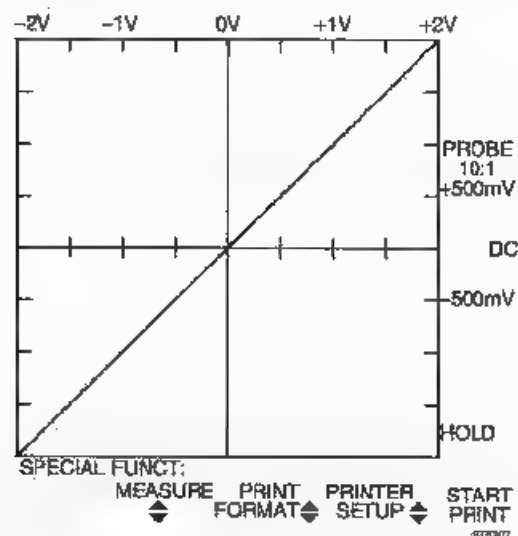

Figure 4.14 Component test "VOLTAGE" mode
- E The ScopeMeter display will now look like figure 4.14.